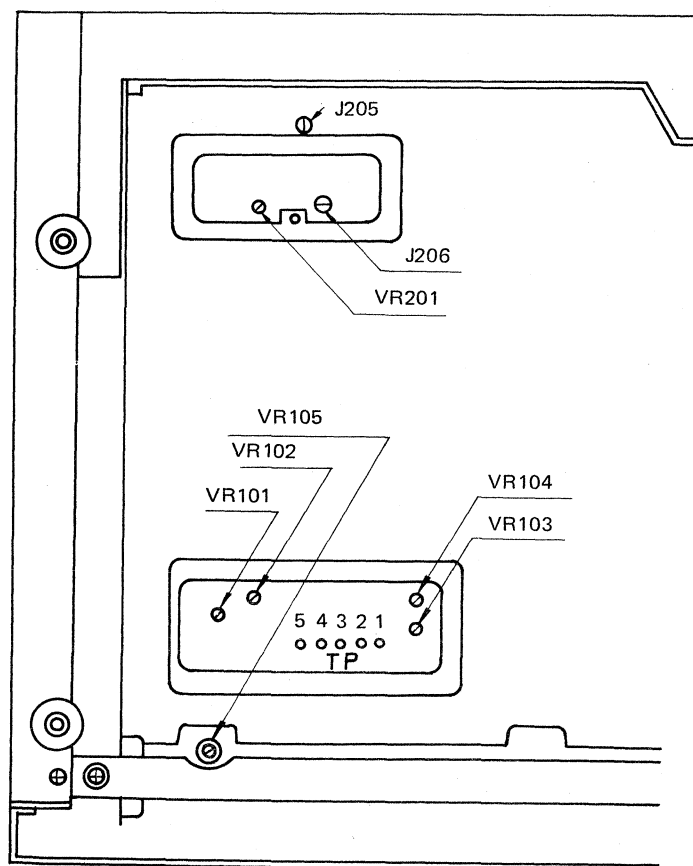

Figure 18
- (1) Set digital volt meter to DC, 20V range, and connect its  $\oplus$  terminal to J205 and  $\ominus$  terminal to J206. (See Fig. 18)
## 4. Adjustment of Random Programming (See Fig. 18.)
5. Adjustment of sensor to detect designated and unmodulated groove to start play in program mode. (See Fig. 18.)